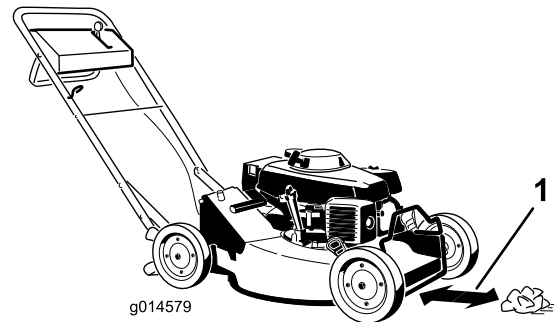

Figure 20
4. Set the ground speed selector to the Neutral (N) position.
5. Take a half sheet of newspaper and crumple it into a ball small enough to go under the deck (about 3 inches or 76 mm in diameter) as shown in Figure 20.
6. Place the ball of newspaper 5 inches (12.7 cm) in front of the machine (Figure 20).
- A. Place the ball of newspaper 5 inches (12.7 cm) in front of the machine (Figure 20).